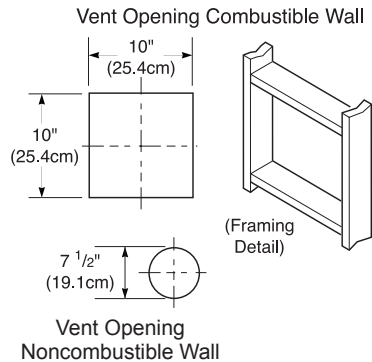

Figure 13 - Vent Opening Requirements
able). See Figure 13. The center of hole should line up with the center line of the horizontal rigid vent pipe. Cut a 10"x10" (25.4 cm x 25.4 cm) square hole through combustible exterior wall (7 1/2" [19.1 cm] diameter hole if noncombustible). Frame as necessary (see Figure 13).
1. Cut a 10" (25.4 cm) square hole in the ceiling using the locating hole as a center point. The opening should be framed to 10"x10" (25.4 cm x 25.4 cm) inside dimensions, as shown in Figure 13 on page 11 using framing lumber the same size as the ceiling joists. If the area above the ceiling is an insulated ceiling or and attic, nail firestop from the top side. This prevents loose insulation from falling into the required clearance space. If the area above the ceiling is a living space,
3. Cut a hole in the roof using the locating hole as a center point. (Cover any exposed open vent pipes before cutting hole in roof.) The 10"x10" (25.4 cm x 25.4 cm) hole must be measured on the horizontal; actual length may be larger depending on the pitch of the roof. There must be a 1" clearance from the vent pipe to combustible materials. Frame opening as shown in Figure 13 on page 11.